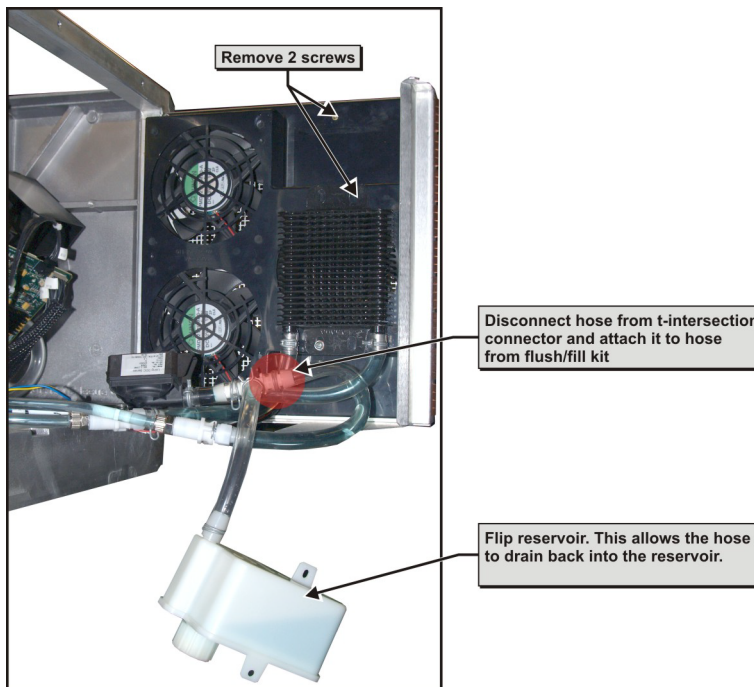

Figure 17 ZX Cooling System Overview
- b. Remove the 2 screws securing the reservoir to the panel (**Figure 17**).
- c. Flip the reservoir so it hangs below the t-intersection connector. This allows the coolant to drain around the back into the reservoir (**Figure 17**).